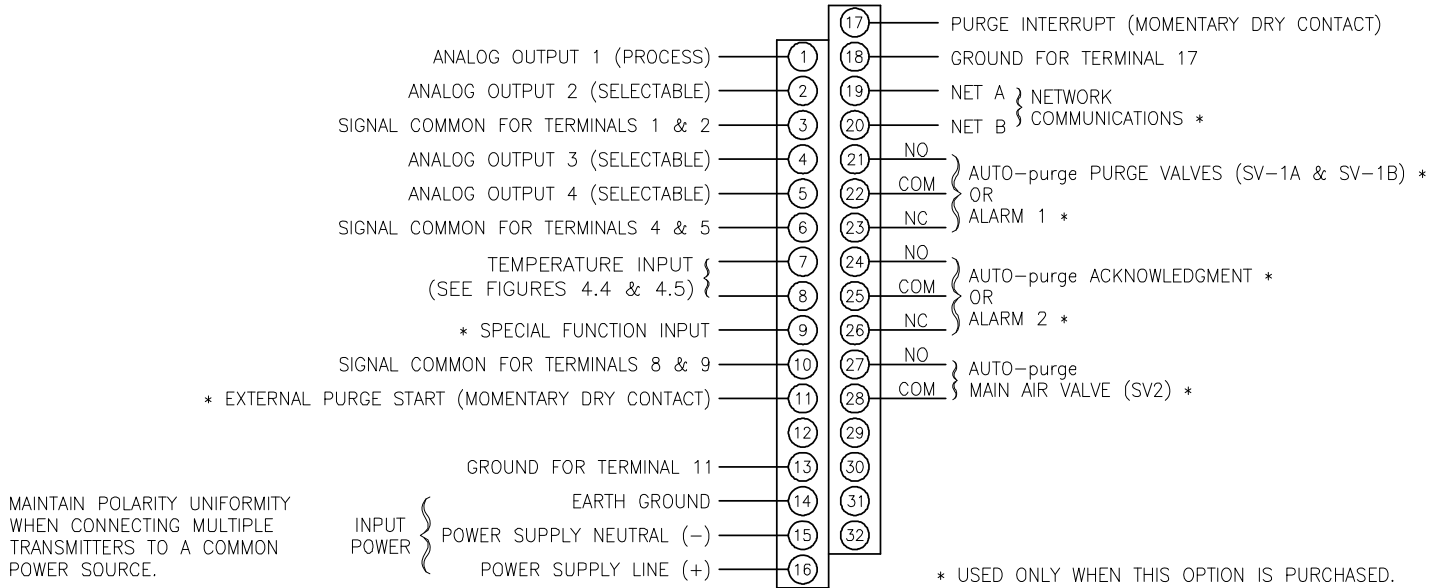

Figure 4.3
All power and signal wiring is done at the terminal strip at the left side of the MASS-tron II. Figure 4.3 below represents the terminal strip and the connections for power input and the various inputs/outputs available (review Factory Set-Up Information Sheet provided separately for which inputs/outputs are included with your unit).
- For Alarm Option. Customer to connect according to desired alarm logic. Figure 4.3 indicates de-energized (alarm off) state.